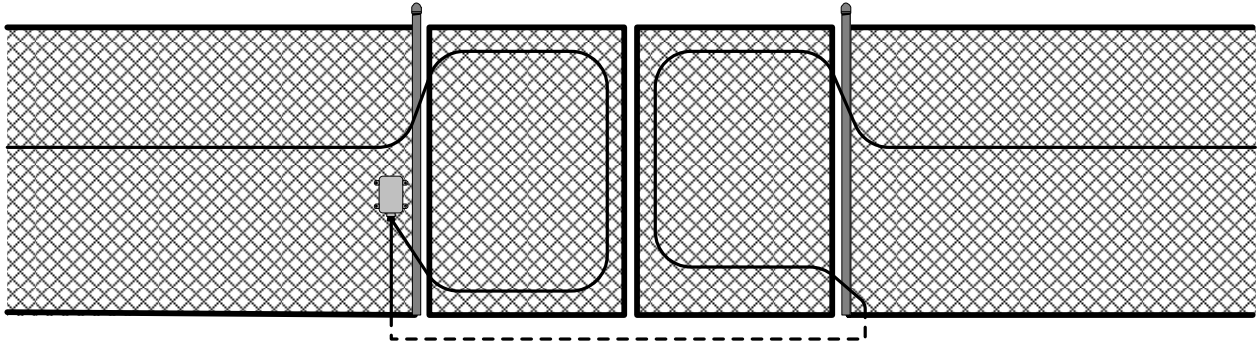

Figure 4.6 - MicroPoint Cable on a Double Swing Gate
For small double swing gates the MicroPoint Cable should be attached to the gate as shown in Figure 4.6. This figure also shows a Splice Unit (SU) which is used for ease of installation. A Splice Unit (SU) is used when the gate occurs more than 50 feet (15 meters) from the end of a cable to avoid pulling long lengths of cable through the conduit.